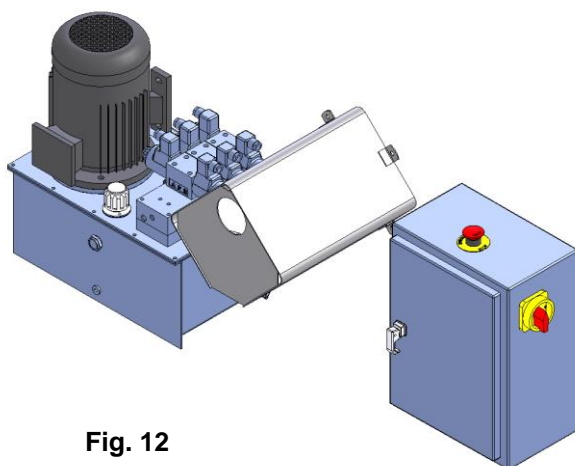

Fig. 12
- When the machine is connected, switch it on and check the correct direction of rotation; this should be as shown by the arrow on the motor unit. (Fig. 12)